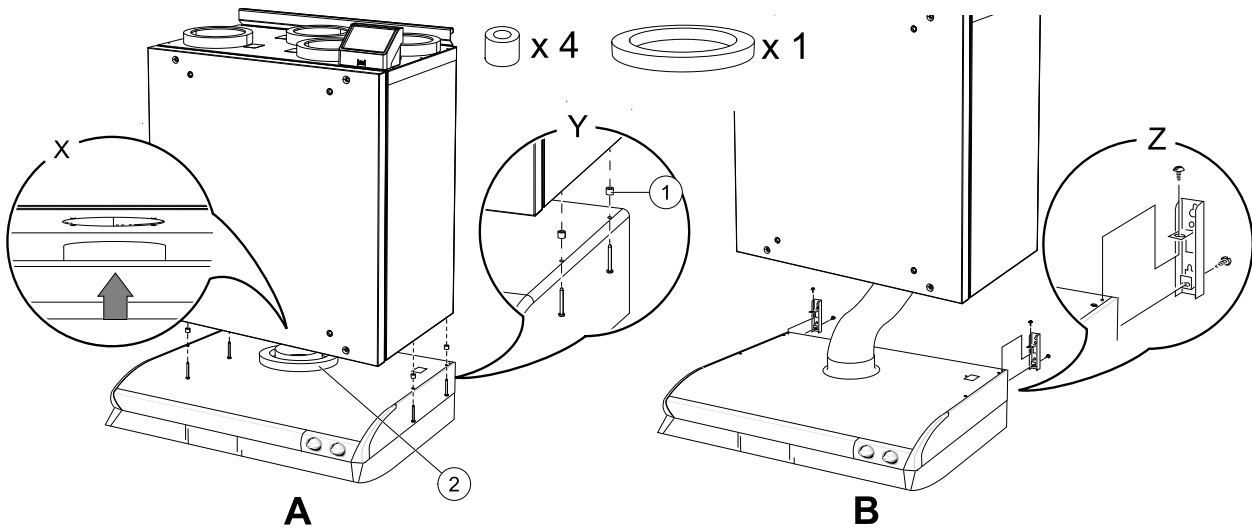

Fig. 6 Installation of the cooker hood
- Place a circular insulation on the cooker hood connector to prevent air leaking (figure 6, pos. 2).
Insert the cooker hood directly into the unit (figure 6, A). Screw the cooker hood to the bottom of the SAVE VTR 150/B unit (figure 6, pos. Y). The duct connector have to go into the unit. Make sure the duct connector is aligned with the unit before starting (figure 6, pos. X). Use included screws and plastic spacers to prevent over-tightening which could lead to bent cooker hood (figure 6, pos. 1).
- Other installation method is to connect the cooker hood to the unit via a flexible duct (figure 6, B). Use mounting mechanism which is delivered together with the cooker hood (figure 6, pos. Z).